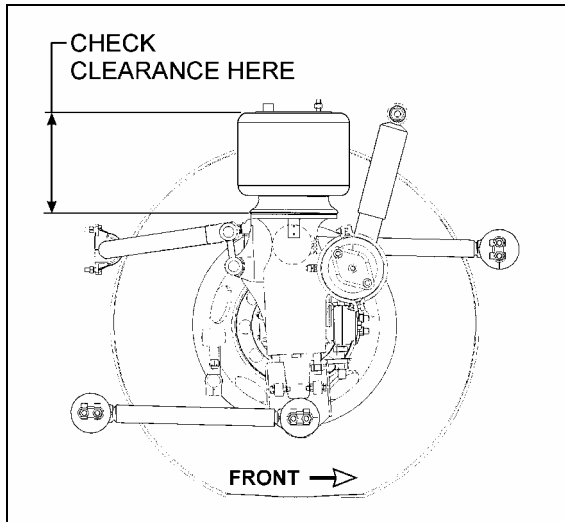

FIGURE 11: TYPICAL AIR SPRING CLEARANCE 16097
The appropriate vehicle body height is obtained by measuring the clearance of all the air springs installed on the front and drive axles. The clearance should be 11 11/16 (297 mm) for the air springs installed on the front axle and $11 \frac{1}{2} \pm \frac{1}{4}$ (292 ± 6 mm) for those installed on the drive axle. Refer to figure 11 to identify the correct location where the measure has to be taken. At this point, it should not be necessary to make an adjustment under normal service conditions. However, if an adjustment is required, change the position of the overtravel lever in relation to the overtravel control body. The lever should be moved up to raise the height of vehicle, and down to lower it. Check that main air pressure is at normal operating pressure and raise the vehicle to the specified height.
1. With the vehicle at normal operating air pressure, check the air spring clearance as illustrated in figure 11. This clearance should be 11 11/16 (297 mm) for the front axle air springs and $11 \frac{1}{2} \pm \frac{1}{4}$ (292 ± 6 mm) for those on the drive axle.
Note: The measure should be taken from under the upper air spring support on subframe to top of the lower air spring support on axle (refer to fig. 11 for more details). If adjustment is required, begin with the drive axle.